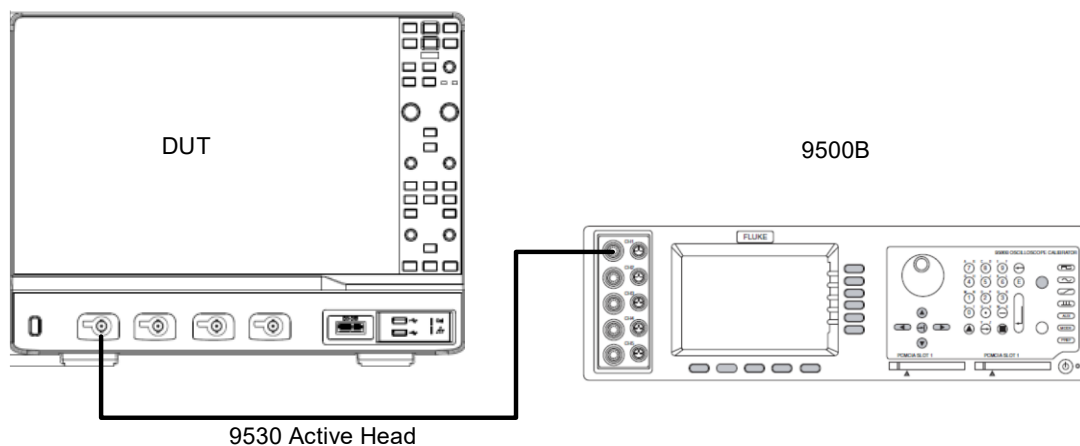

Figure 7 Test setup for DCG / Offset Accuracy / Trigger...
**Note:** The 9530 active head in Figure 7 is connected to any channel of the 9500B, and its BNC connector is connected to the specified channel of the oscilloscope according to the test.
2. Connect a selected channel of the oscilloscope to the 9500B with an active head as shown in Figure 7.